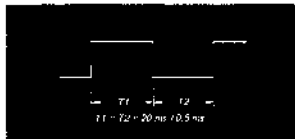

Fig. 7-12. 25 PG Pulse phase check
2. Adjust R495 so that T1 and T2 are 20 ns \pm 0.5 ns (50% duty cycle) as shown in Fig. 7-12.